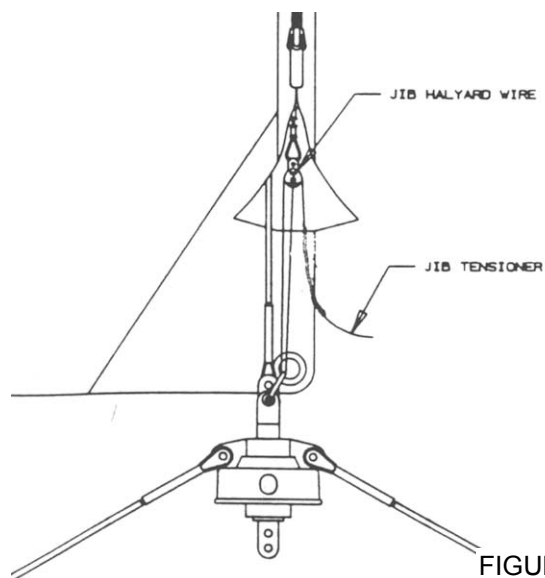

FIGURE 41
22.4 Raise the sail by pulling on the jib halyard line and, at the same time, advancing the zipper down the luff until the jib tack can be attached to the shackle on the neck of the roller furler housing. (FIGURE 41)
22.5 Untie and store the jib halyard line. Connect the jib tensioner line to the block on the end of the jib halyard wire. Thread the tensioner down and through the tack shackle and back up through the block on the halyard wire. Then secure it to tack shackle with half hitches. (FIGURE 41)